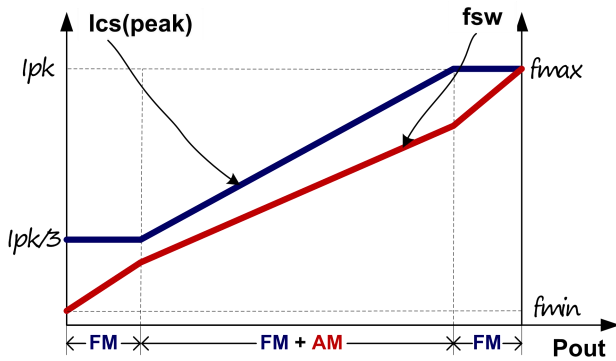

Fig.4
To meet the tight requirement of averaged system efficiency and no load power consumption, a hybrid of frequency modulation (FM) and amplitude modulation (AM) is adopted in DP1801B which is shown in the Fig 4.